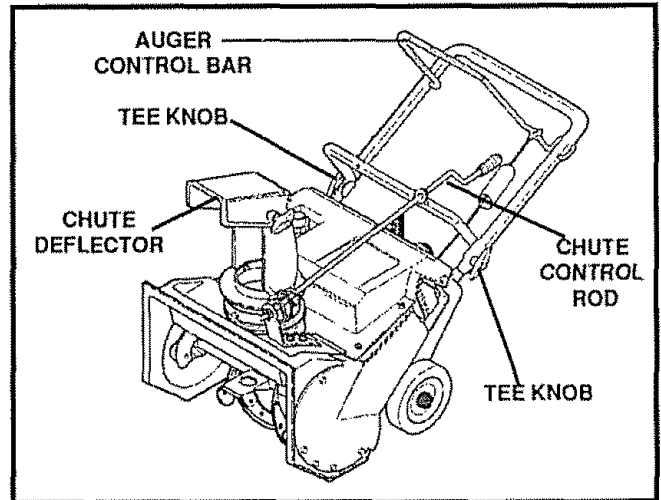

FIG. 1
Figure 1 shows the snow thrower completely assembled. Reference to the right and left hand side of the snow thrower is from the operator position at the handle.
- Loosen the tee knobs on each side of the upper handle (See Fig. 1).
- Raise the upper handle to the operating position as shown in Fig. 1. **NOTE:** Hold upper handle apart to prevent scratching lower handle.